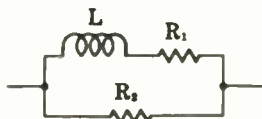

**Fig. 40.**
*Inductance, capacitance, and resistance in parallel (Fig. 40)*